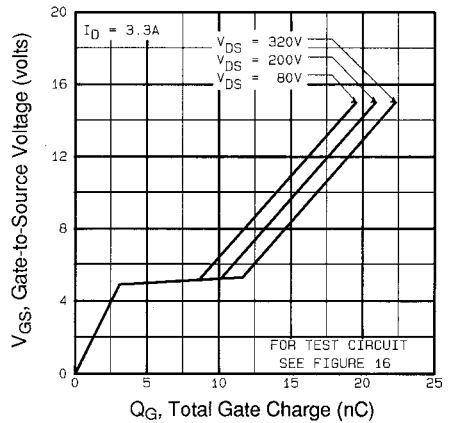

Fig 6. Typical Gate Charge Vs. Gate-to-Source Voltage
| Q _{gd} | Gate-to-Drain ("Miller") Charge | — | — | 11 | nC | V _{GS} =10V See Fig. 6 and 13 ④ |